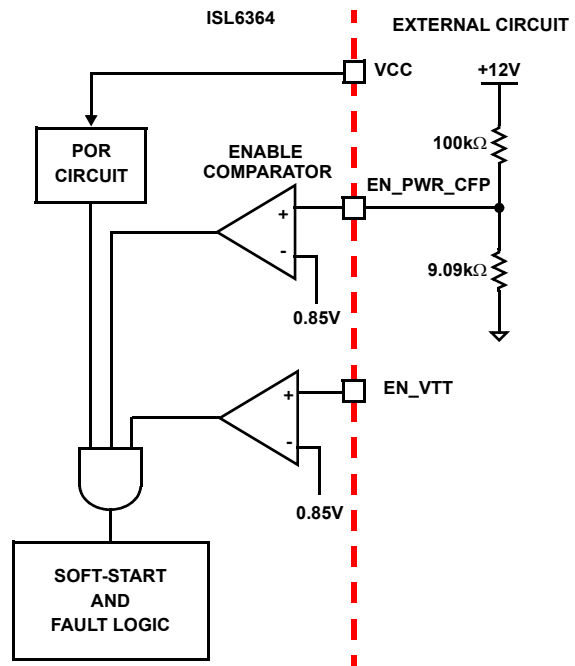

FIGURE 15. POWER SEQUENCING USING THRESHOLD-SENSITIVE ENABLE (EN) FUNCTION
2. The ISL6364 features an enable input (EN\_PWR) for power sequencing between the controller bias voltage and another voltage rail. The enable comparator holds the ISL6364 in shutdown until the voltage at EN\_PWR rises above  $0.85\text{V}$ . The enable comparator has about  $100\text{mV}$  of hysteresis to prevent bounce. It is important that the drivers reach their POR level before the ISL6364 becomes enabled. The schematic in Figure 15 demonstrates sequencing the ISL6364 with the ISL66xx family of Intersil MOSFET drivers.
The ISL6364 actively monitors output voltage and current to detect fault conditions. Fault monitors trigger protective measures to prevent damage to a microprocessor load. One common power-good indicator is provided for linking to external system monitors. The schematic in Figure 15 outlines the interaction between the fault monitors and the VR\_RDY signal.